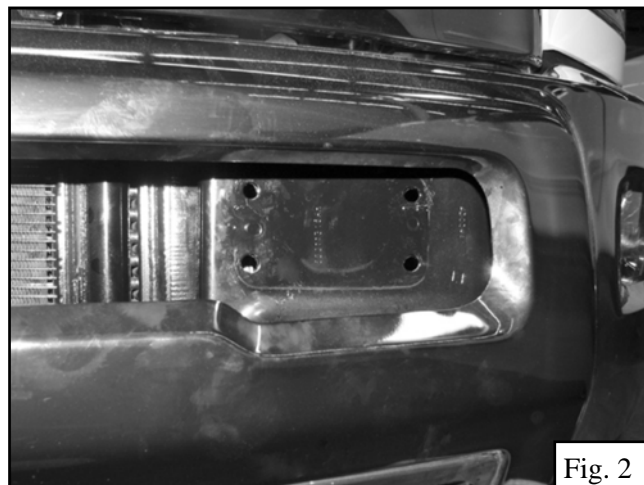

Fig. 2
3. **FOR MODELS WITHOUT TOW HOOKS:** Take the drivers side frame mounting bracket and attach it to the two outer holes in the frame with two (item 4) M10 hex head bolts, four (item 5) M10 flat washers, two (item 6) M10 lock washers, and two (item 7) M10 hex nuts. Do not fully tighten at this time. Repeat this step for the passenger side frame mounting bracket. **See Fig. 2 & 3.**
4. **FOR MODELS WITH TOW HOOKS:** Remove the four factory hex head bolts holding the factory tow hook to the frame. Take the drivers side frame mounting bracket and attach it to the two outer holes in the frame with the factory hardware or with two (item 4) M10 hex head bolts, four (item 5) M10 flat washers, two (item 6) M10 lock washers, and two (item 7) M10 hex nuts. Do not fully tighten at this time. Repeat this step for the passenger side frame mounting bracket. **NOTE: Factory tow hooks cannot be reinstalled with this application. See Fig. 2 & 3.**